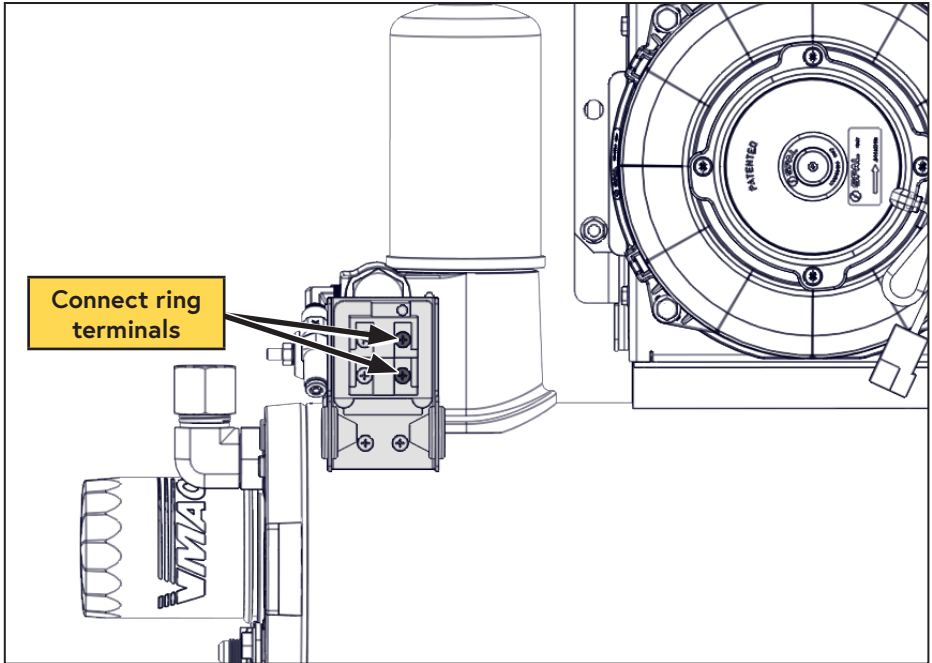

Figure 63 — Connect pressure switch
- Connect the ring terminals from the white wire running from CN3 of the control module, and the grey wire running from the pressure switch harness to the pressure switch on the WHASP Tank (these are not polarity dependent) (Figure 63).